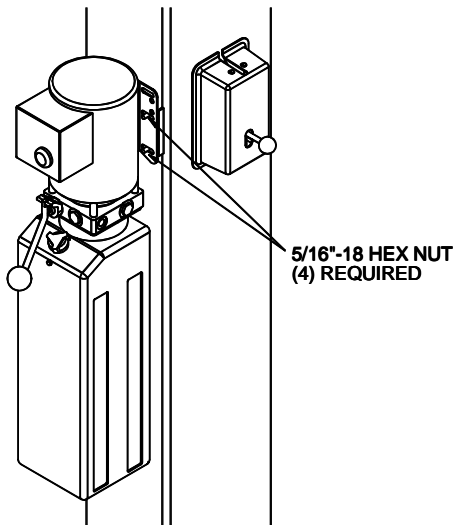

Fig 8 – Power Unit Mounting
- 23) Mount Power Unit to power column as shown in **Fig 8**. The mounting hardware, (4) 5/16"-18 hex nuts, are pre-installed on power unit mounting bracket.